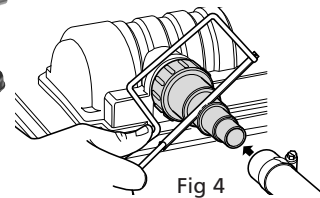

Fig 4
1.3 Cut the inlet hose tail on your EcoPower+ Filter to the size appropriate for the diameter of the hose to be used (see Fig 4). Then connect the hose from your pump to this inlet hose tail and secure with hose clips, available separately, to ensure there are no leaks. Do not overtighten.